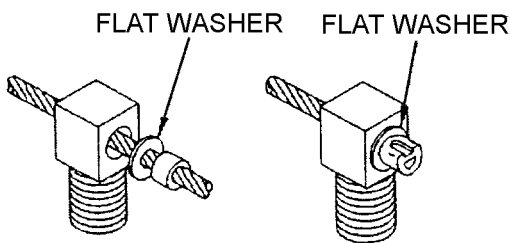

Figure 21. Flat Washer Safety Cable Installation
e. Applications where safety cable is to be installed through a hole having a nominal diameter of greater than 0.095 inch (2.41 mm), but less than 0.200 inch (5.08 mm) shall require a flat washer (same material composition as the safety cable) which is supplied by the safety cable manufacture for this purpose, and shall be used as shown in Figure 21.